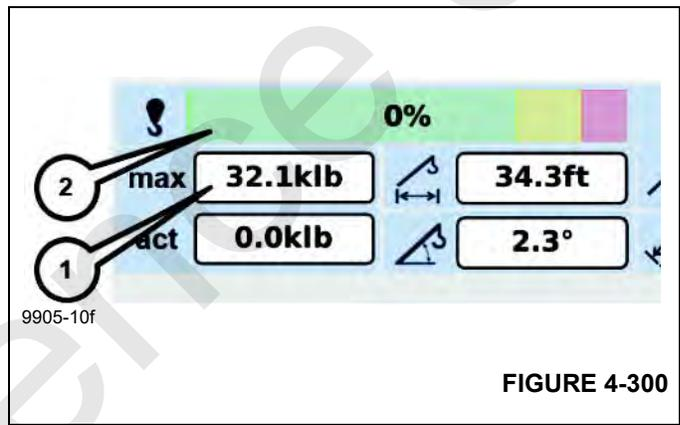

FIGURE 4-300
Display:	Maximum load (1), (Figure 4-300) in metric tons (t) or kilo-pounds (klbs) for the displayed RCL code
Degree of utilization = 100 x current load/maximum load (2), (Figure 4-300).